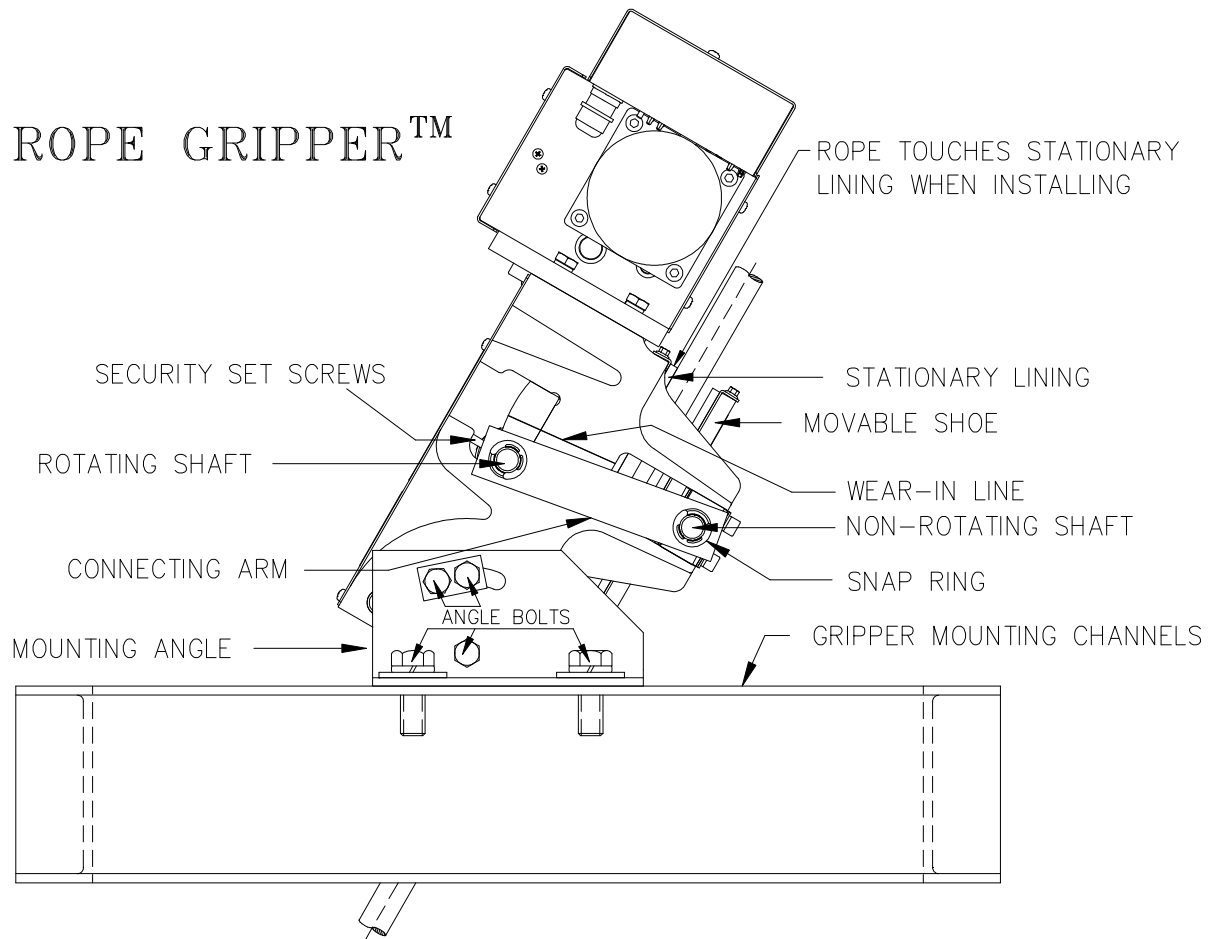
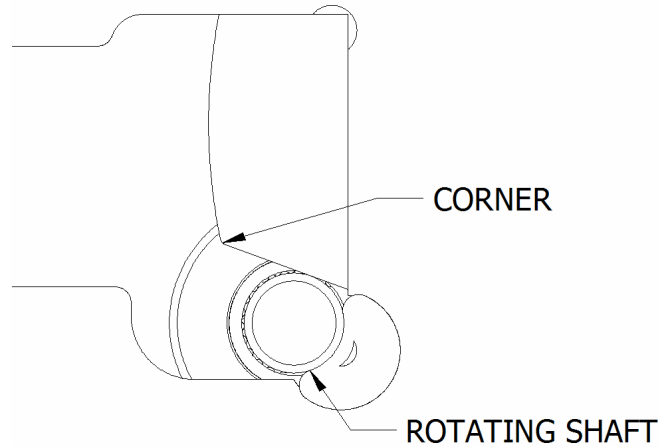

Figure 1
Figure 5
- Be sure security set screws are holding the rotating shaft in the LOADED (open) position as shown in Figure 1 (p. 1).
A line has been marked on the side wall of the gripper to aid in the Wear-In process. *Note that at this point in the procedure, this line is well above the Connecting Arm and will be met or covered by the Connecting Arm during the Wear-In process (see Figure 1 on p. 1 for locations of Connecting Arm and Wear-In Line).*
- As the linings wear in, the rotating shaft will move back in the cam slot and up around the corner of the cam noted above (Figure 5, above), and the connecting arms (see Figure 1 on p. 1) will move up the side wall and begin to match or line up with the wear-in line marked on the side wall.